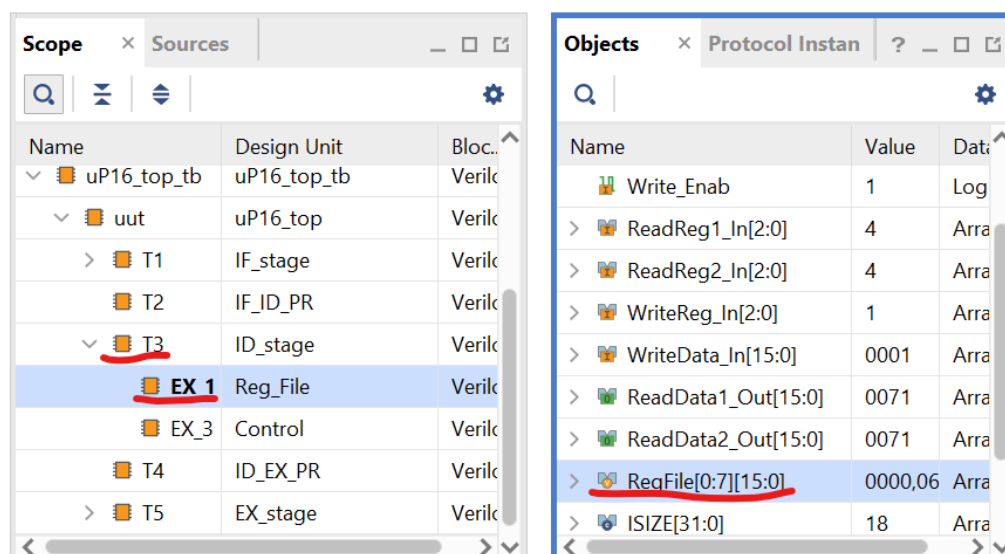

Figure 2: Simulation objects to the simulation
7. Add the register file (RF), *RegFile [0:7,15:0]*, and Data memory Write_Enab, Enable, Add_In, Data_in, Data_out simulation objects to the simulation. To do this, open the *uP16_top_tb* instance in the "Scope" pane. Open *uut*, and then the *T3* instance. Select the *EX_1* sub-instance (the various instances match the module instantiation instances in *uP_top.v*) until you have the *RegFile* element. Then drag the simulation object (from the "Objects" pane) to the simulation "Name" pane (Figure 2). Repeat for the *T7* instance, selecting the *DM_1* sub-instance, and then drag the required 5 instances. In the waveform window (in the "Name" pane), expand *RegFile*. **Save the simulation window to the Lab4 directory and add it to the project.**